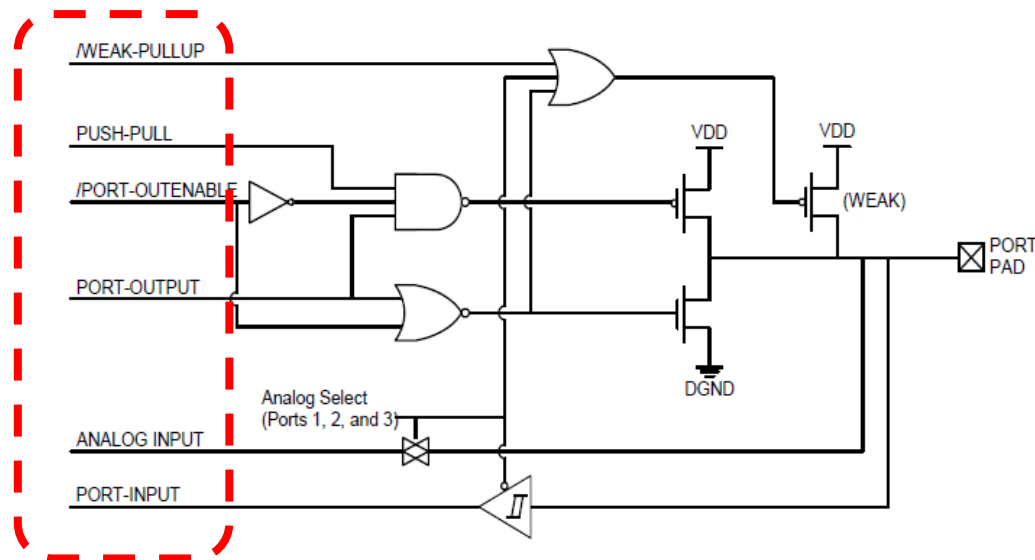

Figure 17.1. Port I/O Cell Block Diagram
- Read Figure 17.1 of C8051F040 spec and the schematics of Big8051